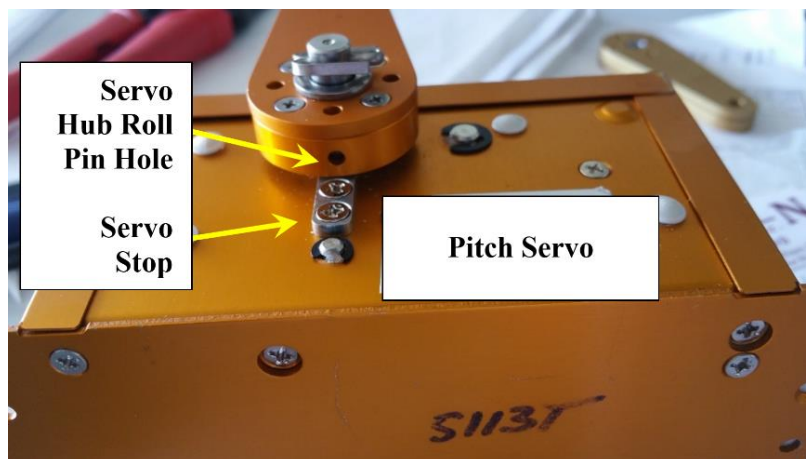

FIGURE 2-2 PITCH SERVO
- 2.5 With the **pitch servo** hub drift pin aligned with the stop, the servo arm must be installed in line with the drift pin facing away (perpendicular) from the servo baseplate. See Figure 2-2